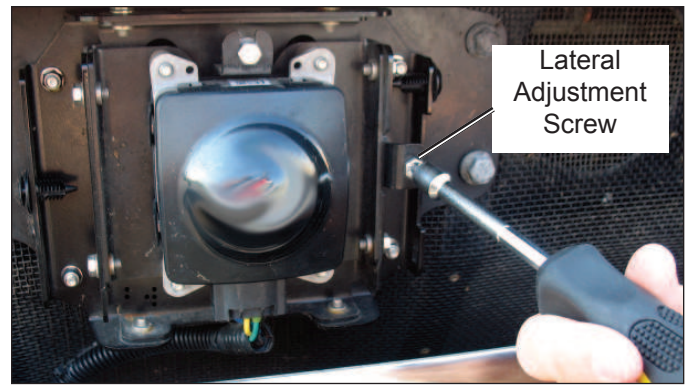

FIGURE 37 - LATERAL ADJUSTMENT
2. See Figure 37. Adjust the lateral adjustment screw until the desired alignment is reached. DO NOT remove the screws. Use steps 4 through 7 in Section 6.9: Check Lateral Alignment section to measure.